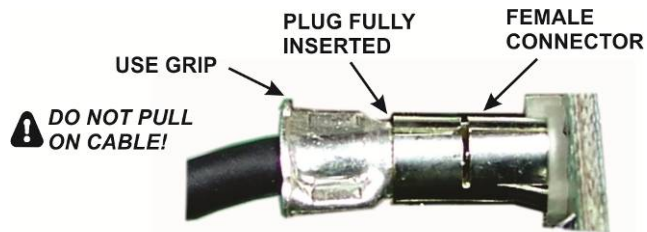

Figure 6. TMP Cable Connectors.
- You can either unplug the coaxial cables or push the module aside to reach the mounting screw for the main synthesizer board. To remove the cables, first remove the five screws securing the top cover and lift it off so you can pull on the metal grip of each connector (see Figure 6). Do not pull on the coaxial cable; you might pull it out of the TMP connector. If you remove it completely, a diagram is provided on page 14 showing all of the required cable connections to reinstall it.
Unplug the coaxial cables from the synthesizer. The connectors are a friction fit and pull apart. Pull on the metal “ears” of the TMP connectors, not on the coaxial cable (see Figure 6).